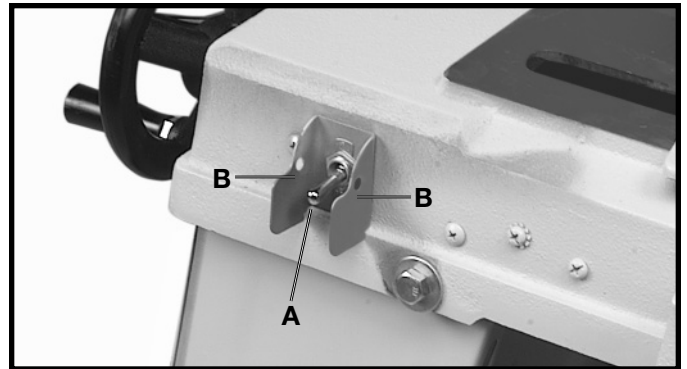

Fig. 13
1. The on/off switch (A) Fig. 13 is located on the front of the band saw. To turn the machine "ON," move the switch up to the "ON" position.
2. To turn the machine "OFF", move the switch (A) down to the "OFF" position.
IMPORTANT: When the machine is not in use, the switch should be locked in the "OFF" position to prevent unauthorized use, using a padlock with a 3/16" diameter shackle through the holes at (B) Fig. 13.